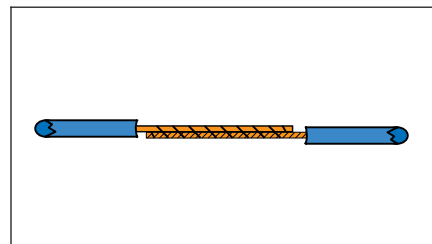

Figure 3 Wrap with #30 Awg Wire
6. Using a single strand of wire (approximately #30 awg) from a stranded wire (see Note above), wrap the overlapped wires to achieve sufficient mechanical security to prevent movement of the overlapped ends during soldering. (See Figure 3.)